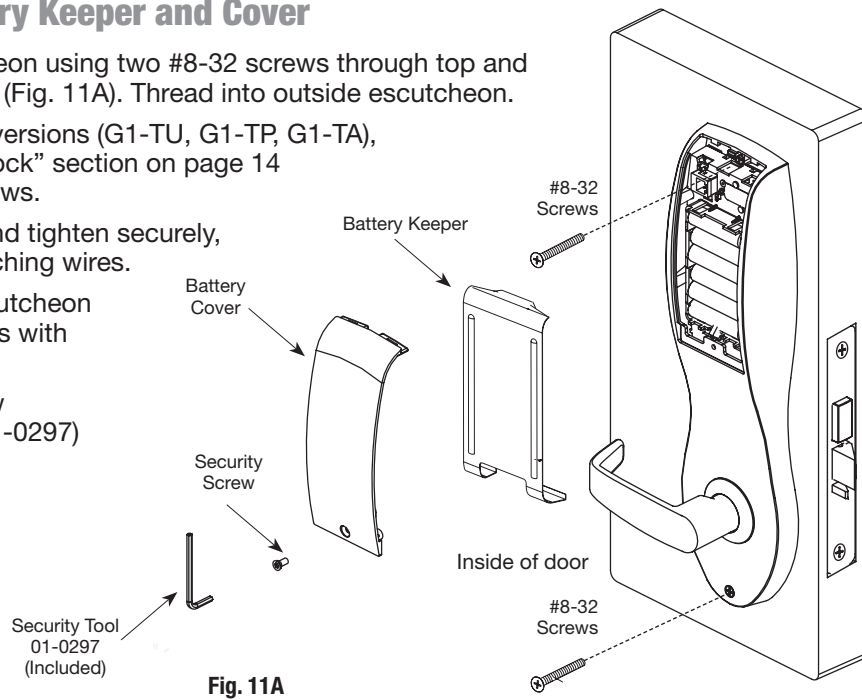

Fig. 11A
1. Secure the inside escutcheon using two #8-32 screws through top and bottom of the escutcheon (Fig. 11A). Thread into outside escutcheon.
4. Secure with security screw using security tool (P/N 01-0297) provided (Fig. 11A).